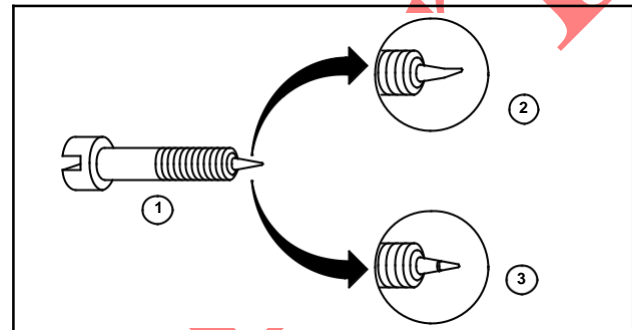

Fig. 19
Inspect mixture adjustment needle (1), Fig. 19, and replace if bent (2), or grooved (3).